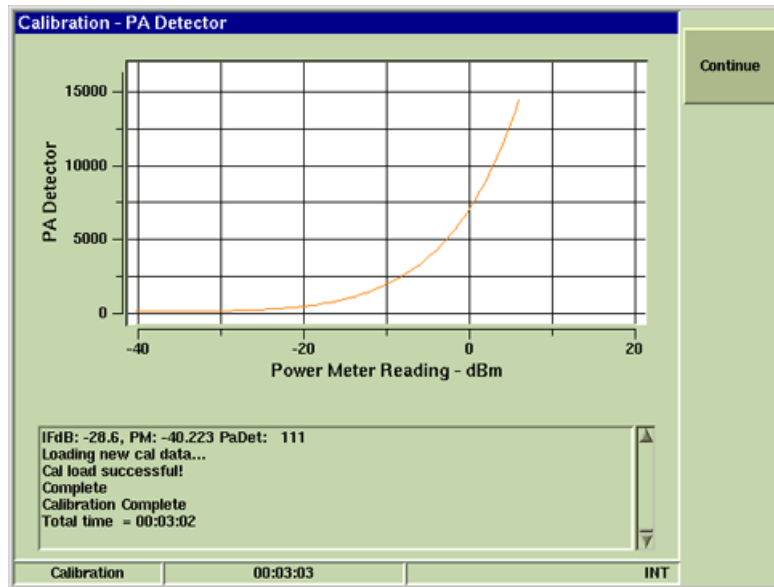

Fig. 4-6 PA Detector Signal Trace
- When the PA Detector Calibration Procedure is complete, verify Calibration Complete is displayed in dialog box. Verify signal trace on Test Set resembles signal trace shown in Fig. 4-6.